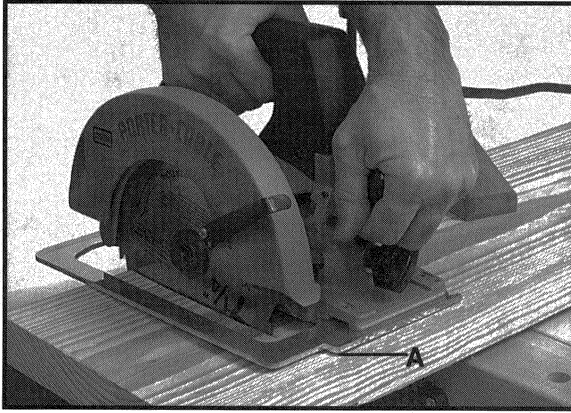

Fig. 8
On the right front part of the base, a beveled edge (A) Fig. 8, is provided to aid the operator in guiding the saw parallel to the desired line of cut when the saw is set at 90 degrees or at any bevel angle to 45 degrees.
**WARNING:** It is important to support the work properly and to hold the saw, firmly to prevent loss of control which could cause personal injury. Fig. 8 illustrates proper hand support of the saw with the right hand on the top handle and the left hand on the front auxiliary handle.
Clamp work on a rigid support such as a bench or saw horses. See Fig. 8. Mark the line of cut on the work. Be sure cutoff line is beyond end of support to the right, only enough to allow proper operation of the telescoping guard. Place front edge of saw squarely on work before starting motor. Sight the cutting line with the cut-line indicator (A) Fig. 8. Back saw up slightly and start motor. Move saw forward keeping the edge of cut-line indicator parallel to line of cut.
Cutting directly across the grain of a piece of lumber is called crosscutting. Fig. 8 illustrates a crosscut operation. Position the work so that the cut will be on the right, as shown.